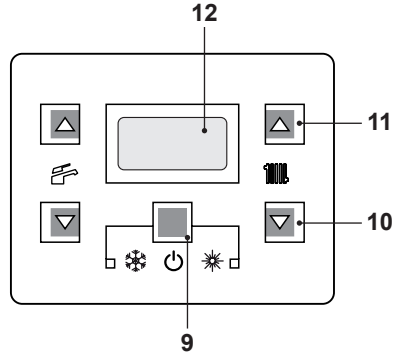
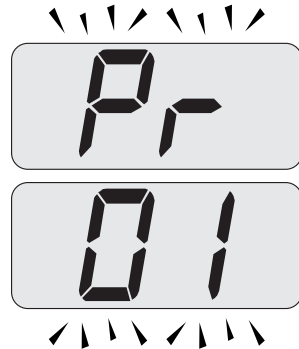

Fig. 8.7
Fig. 8.8
- Enter in "programming mode" by sequentially pressing and holding keys 9 - 10 - 11 (Fig. 8.7) for 10 seconds at the same time until the letters **Pr** that alternate with code 01 are displayed on the LCD display, indicating that "parameter 01", has been activated (Fig. 8.8).
- Press keys 9 and 11 (Fig. 8.7) at the same time until the value of parameter 15 (Fig. 8.10) is displayed on the LCD display.
- By pressing key 9 (Fig. 8.7) confirmation of the inserted value is obtained.
- Press keys 9 and 10 (Fig. 8.7) at the same time to exit without changing the value (return to the parameters list Fig. 8.9).
- Press sequentially keys, 9 - 10 and then 11 (Fig. 8.7) and hold in for 10 seconds to exit the "programming mode".
However, if the ambient temperature is not comfortable, the flow temperature of the heating system can be increased or reduced by  $\pm 15^{\circ}\text{C}$  by pressing keys 10 (reduce) and 11 (increase) (Fig. 8.7).